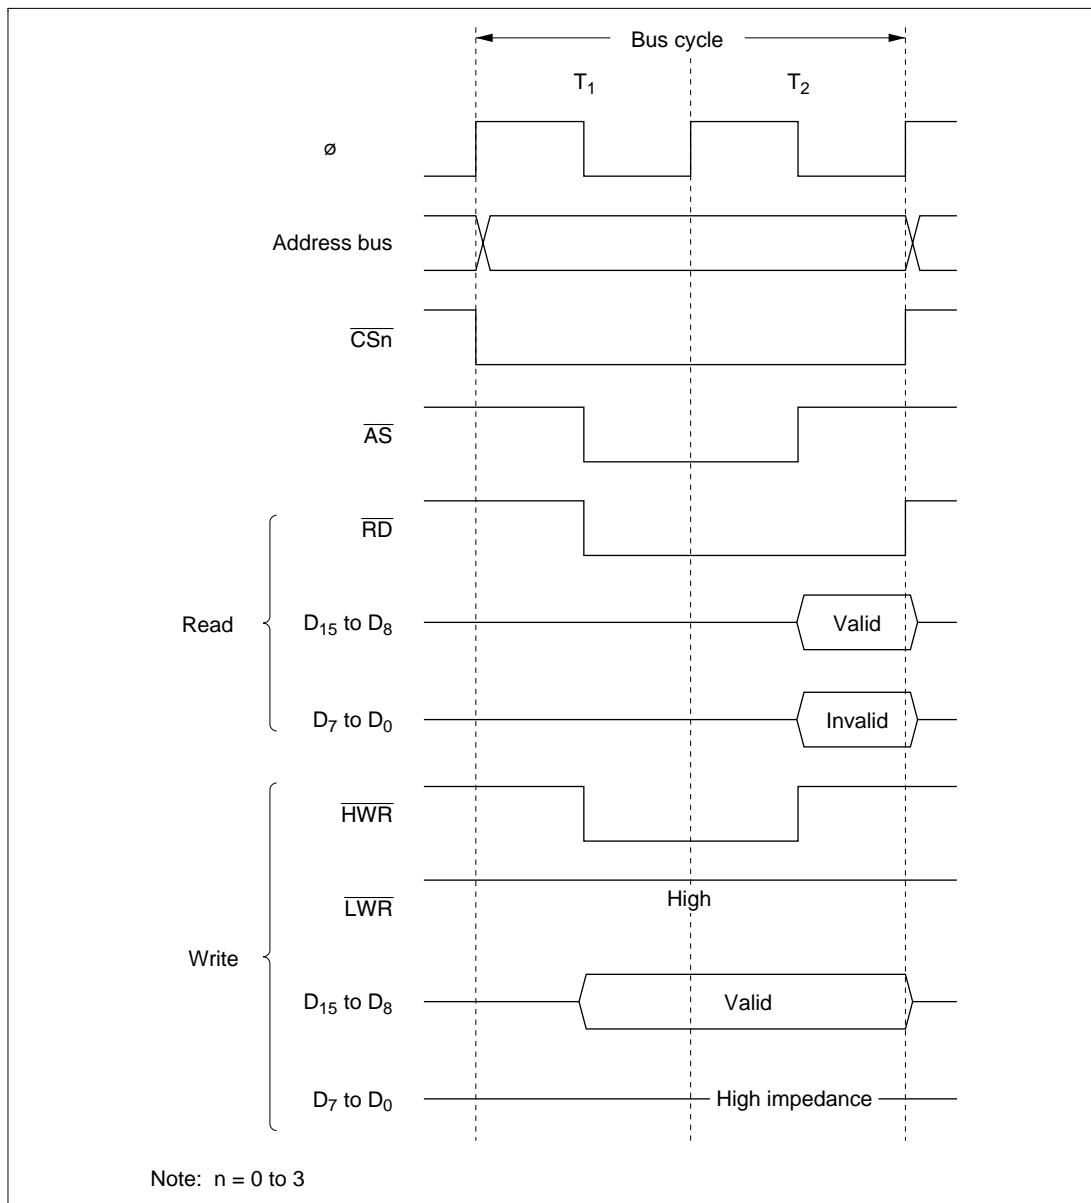

Figure 6-6 Bus Timing for 8-Bit 2-State Access Space
(1) 8-Bit 2-State Access Space: Figure 6-6 shows the bus timing for an 8-bit 2-state access space. When an 8-bit access space is accessed, the upper half (D_{15} to D_8) of the data bus is used.